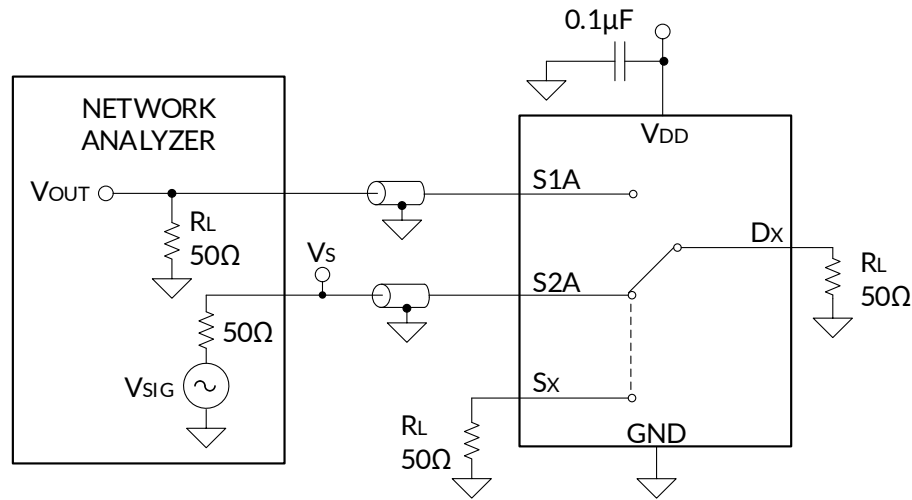

Figure 19. Channel-to-Channel Crosstalk Measurement Setup
Crosstalk is defined as the ratio of the signal at the drain pin (D) of a different channel, when a signal is applied at the source pin (S_x) of an on-channel. Figure 19 shows the setup used to measure, and the equation used to compute crosstalk.